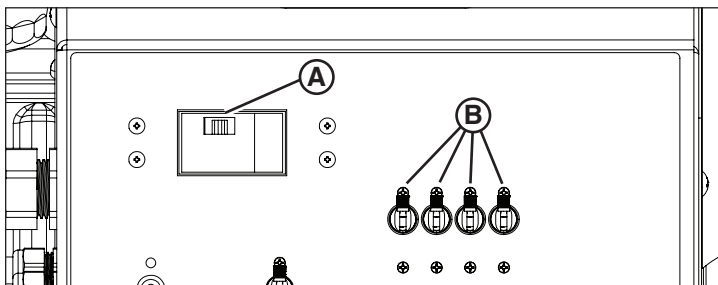

Figure 22
- Turn on the main light breaker (A, Figure 22) (if set to OFF).
- Turn on individual light switches (B, Figure 22) (1 - 4, if set to OFF).